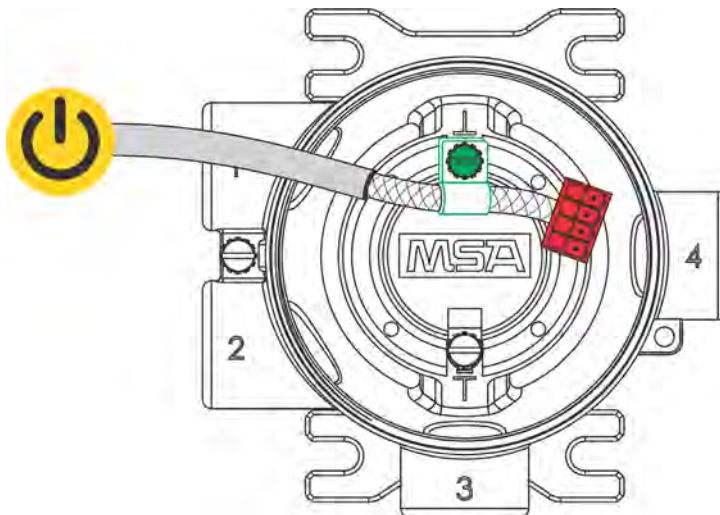

Fig. 31 Connecting Power and Grounding Cable
Using shielded cable is recommended. The cable shield should be terminated internal to the instrument enclosure using the crimp terminal provided (see Fig. 31).
- (7) Tighten screws on connector and tug gently on wires to ensure they are secure.
- (8) Connect shield of cable to base of instrument housing (see Fig. 31).